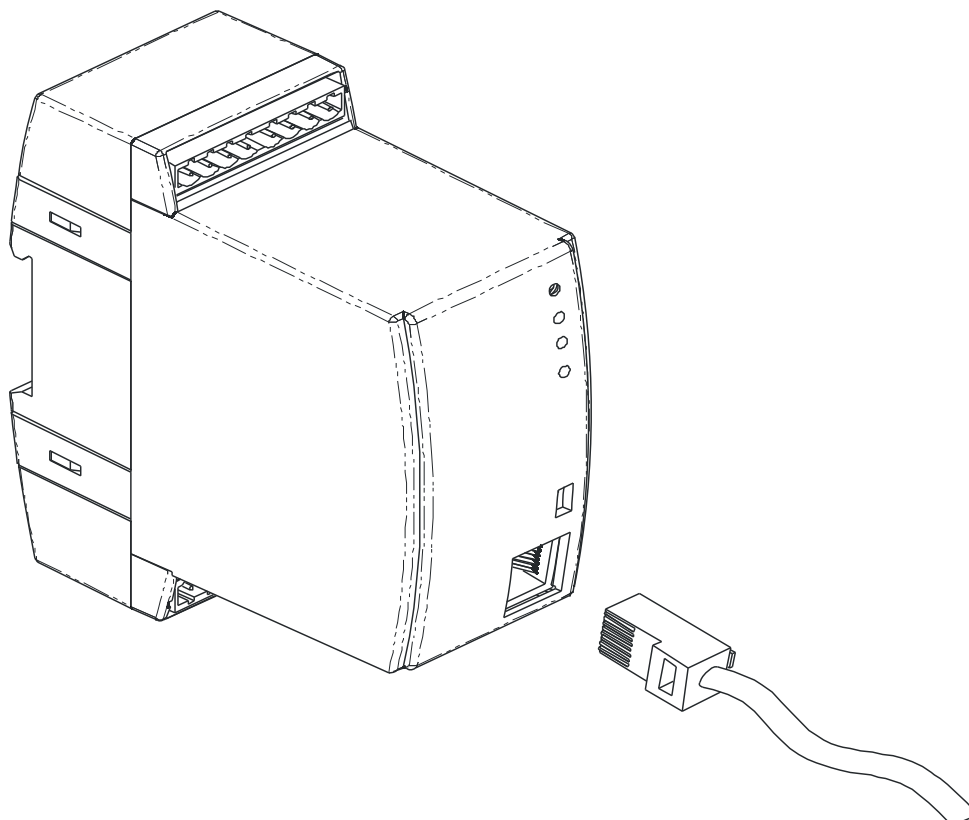

Fig. 4. Connecting Ethernet wire to RJ-45 socket
- allow to connect device to Ethernet network (the way of connection shown on fig. 4),